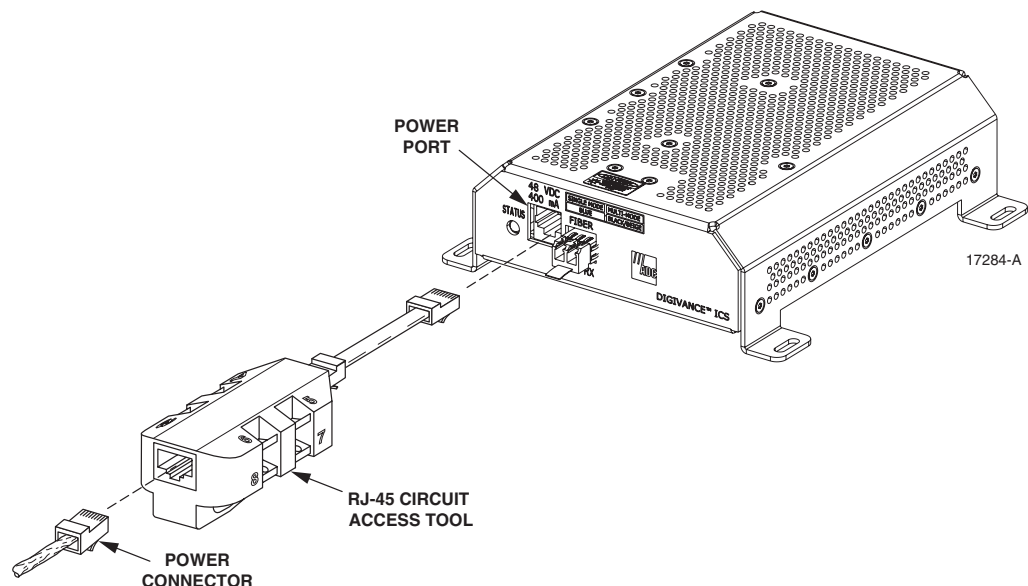

Figure 29. Connect RJ-45 Circuit Access Tool
2. Connect the RJ-45 circuit access tool to the DRU as shown in Figure 29.
3. Connect the DC power cable to the RJ-45 circuit access tool (see Figure 29).